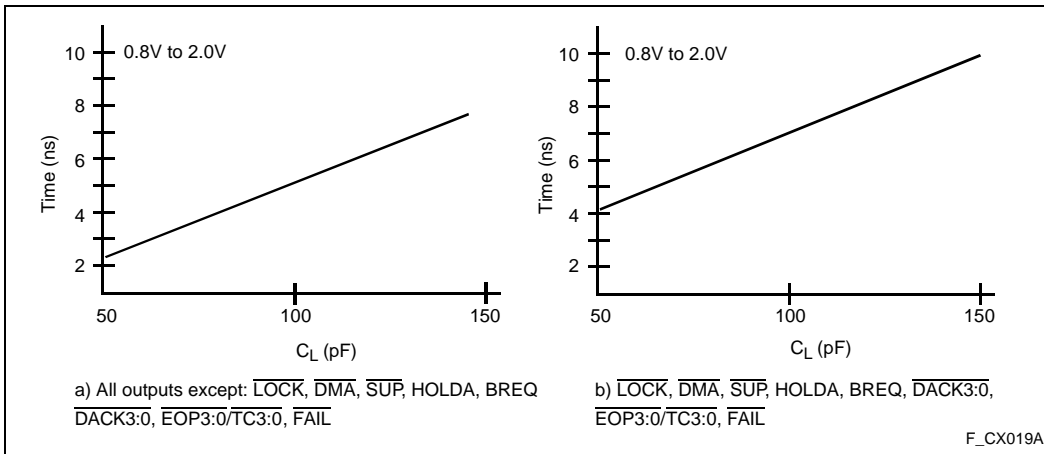

Figure 17. Rise and Fall Time Derating at Highest Operating Temperature and Minimum  $V_{CC}$
- See Figure 17 for capacitive derating information for rise and fall times.